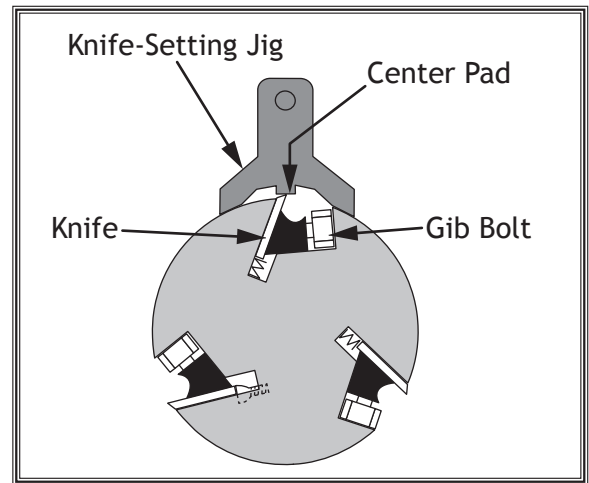

Figure 23. Knife-setting jig correctly positioned over knife.
6. Position knife-setting jig over knife so that knife edge is directly under center pad, as shown in **Figure 23** to right.